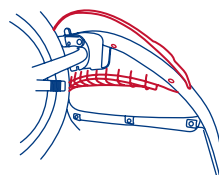

Fig. 24a
- 24) • Line up the front fender and press onto the front frame assembly (Fig. 24a).